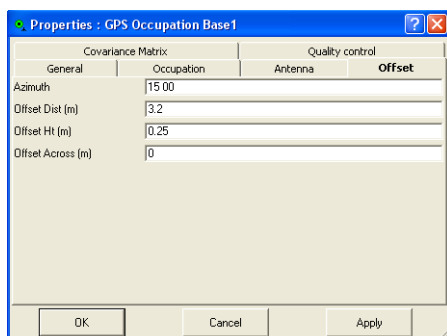

Figure 5-7. GPS Occupations Properties – Offset Tab
3. Right-click on the *GPS Occupations* table and click **Properties** on the pop-up menu. Click the **Offsets** tab to edit antenna offsets for the selected occupation (Figure 5-7 on page 5-10).